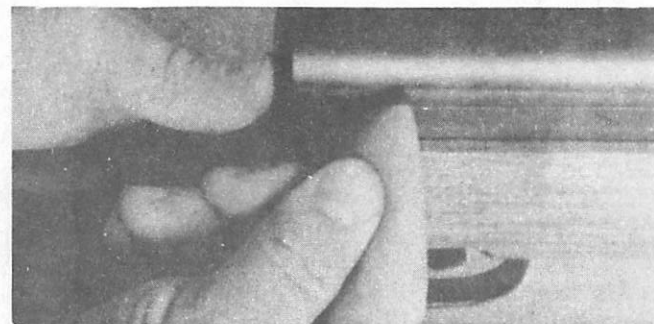

Fig.7
1. With index finger of right hand place pad of finger under tab of receiver cover dismounting pin on right rear of receiver. Applying some pressure to the tab, force this up and out of its detent while pressing on the rear of the cover with the thumb of the left hand (Fig. 7).